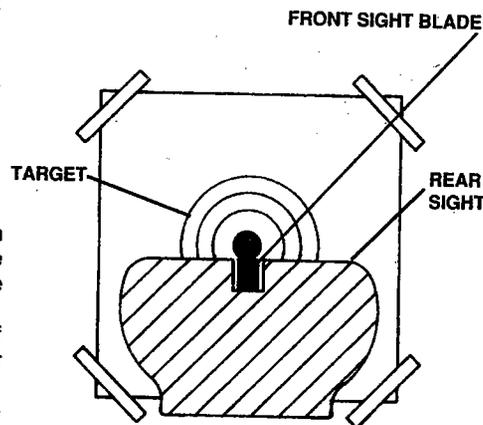

FIG. 5
- The rifle is correctly aimed when the front sight blade is positioned exactly in the notch of the rear sight. The top of the front sight blade should be even with the top of the notch in the rear sight. The bullseye should appear to rest on the top of the front sight. (Fig. 5)